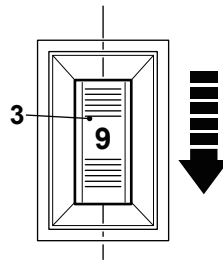

Fig. 9
- > Turn the speed dial (3) backward (as seen from the operators position) to decrease the maximum rotational speed (Fig. 9). The beginners have more success in reaching a desired effect at a low rotational speed. It also helps spread the polish evenly over the working surface without splattering all around.